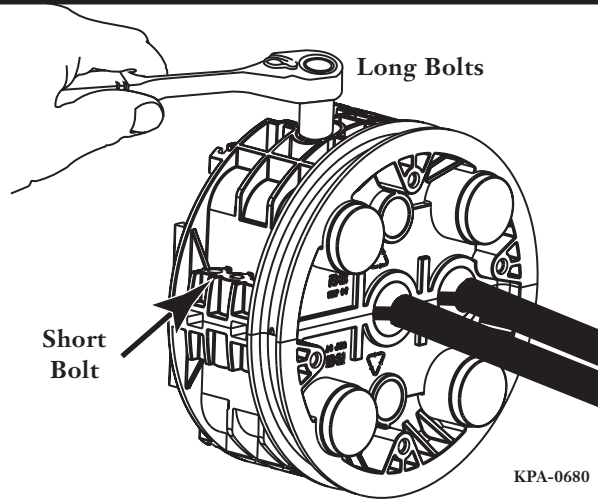

Figure 62 — Reopen End Cap
- Step 4** Remove the two long bolts holding the end cap segments together (Figure 62).